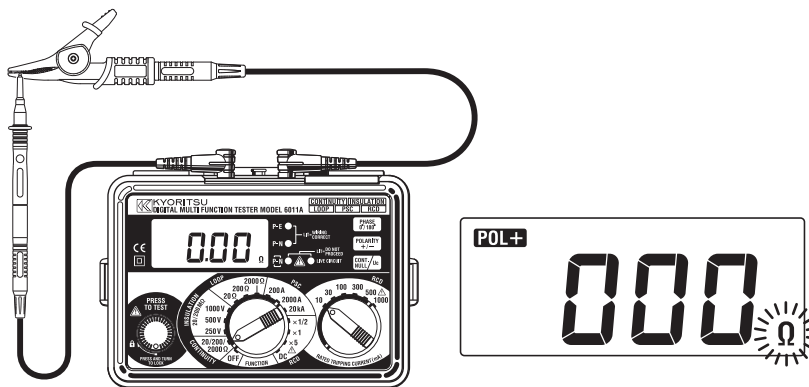

Fig 2
2. Connect the ends of the test leads firmly together (see Fig 2) and press and lock down the test button. The value of the lead resistance will be displayed.